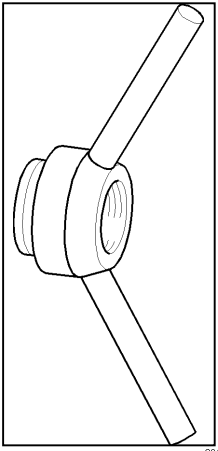

Fig.5
**#14021053 Wing nut** (Fig.5).